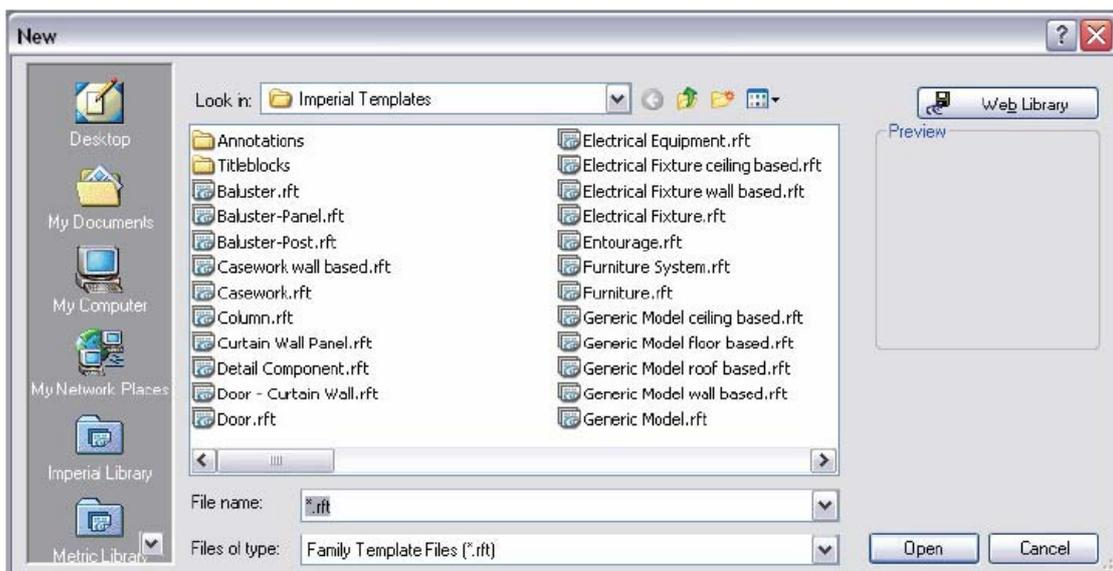

Fig 4.1
Families are grouped under different categories: Family and Type. The naming conventions are shown as follows. (fig. 4.1)
4.1.3 Standard component families are the most common families in Autodesk Revit, and are the focus of the remainder of this paper. Standard component families can be placed in project template files so that they preload with each new project, or they can reside in libraries to be loaded on demand. While working in the Family Editor, users can: 1) open an existing family and modify it to suit their needs, or 2) start a new family using the appropriate template. To start a new family, choose the File pull down menu and then select New >> Family. (Fig 4.1)